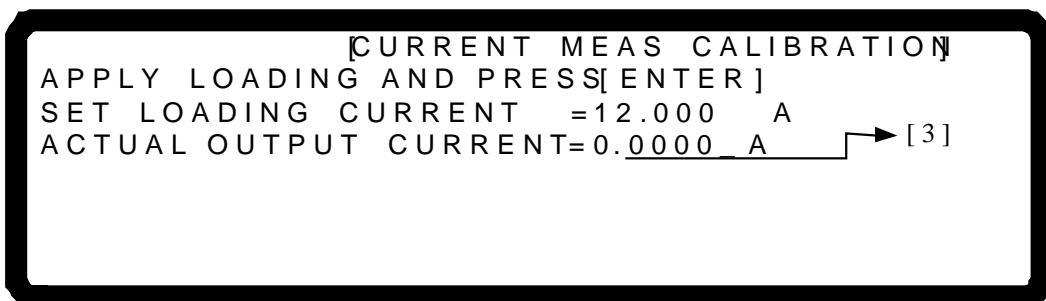

Figure 3-145
8. Press “” to perform the 12A calibration. When the cursor stops at position [3] as shown in Figure 3-145, set the Electronic Load to draw 12.00A current. Enter the current read by the ULTRASTAB SATURN (DVM) and press “” to confirm it.